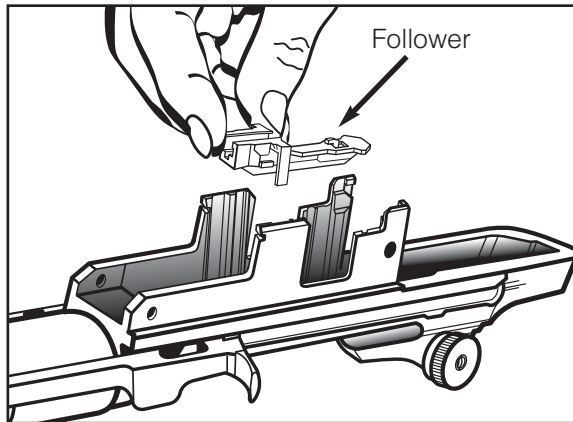

Fig. 35-1
4. Lift the follower assembly out of the receiver. (See Figure 35-1).